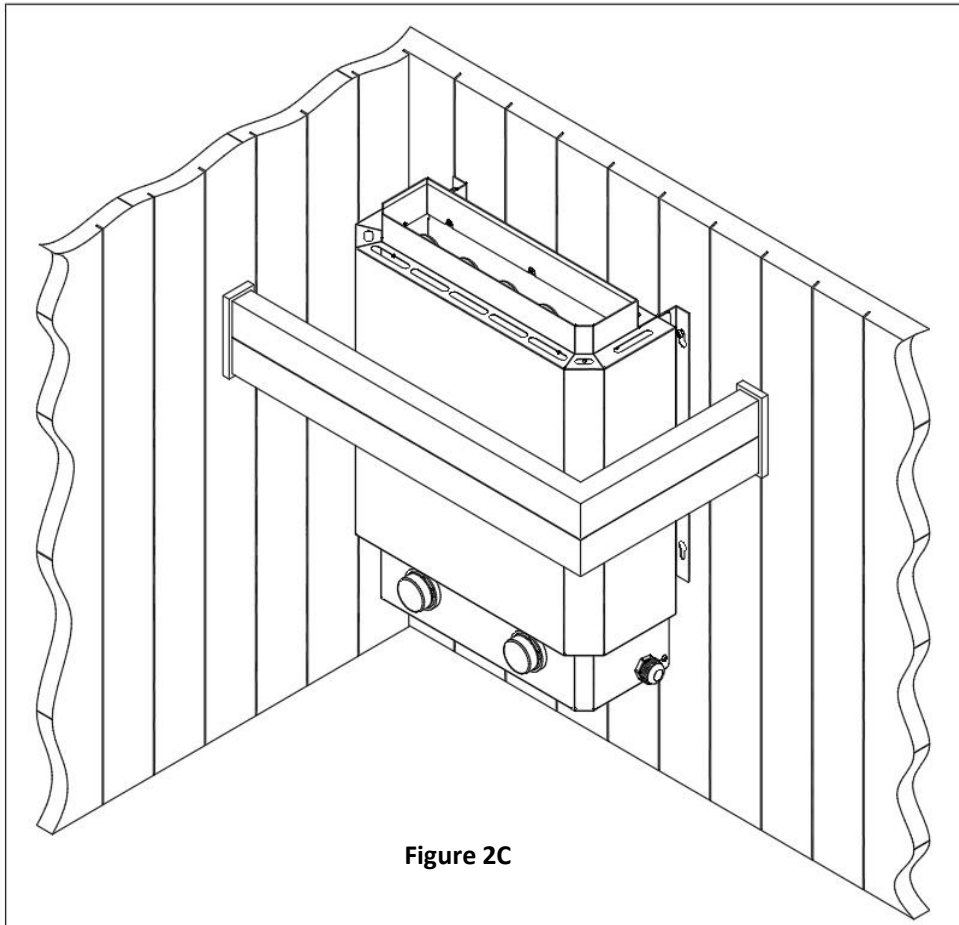

Figure 2C
- Install a guardrail for safety. (see figure 2C&2D)